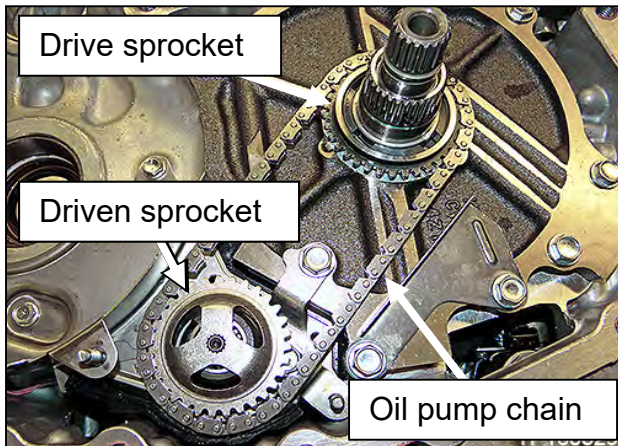

Figure 41
23. Remove the oil pump chain, driven sprocket and drive sprocket as one assembly (Figure 41).